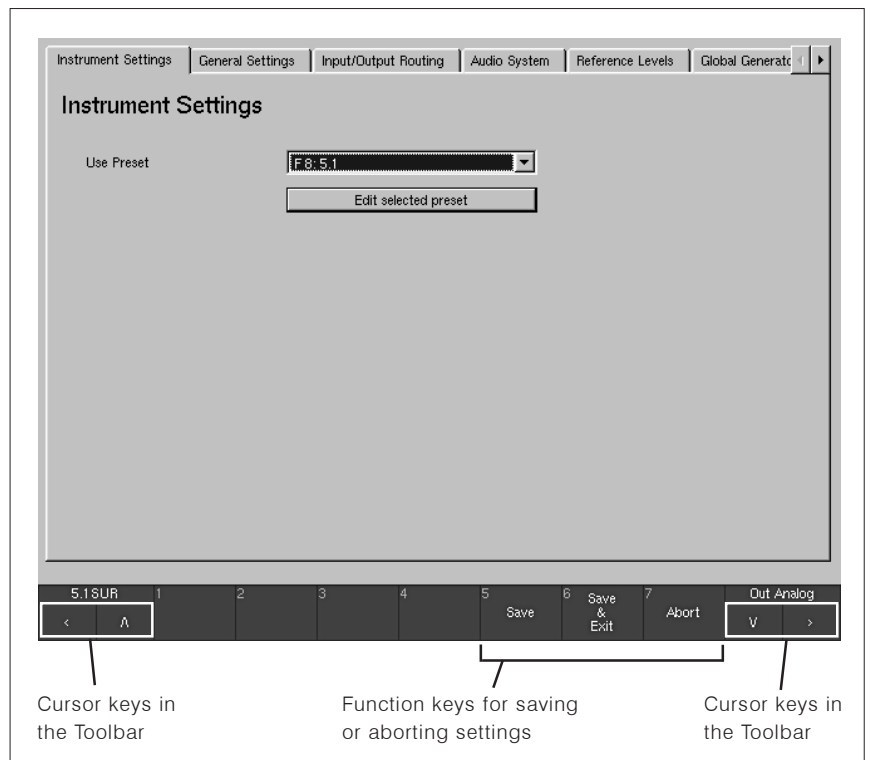

Fig. 6-1: The menu system
(Button/key 5, see Fig. 6-1)
(Button/key 6, see Fig. 6-1)
(Button/key 7, see Fig. 6-1)